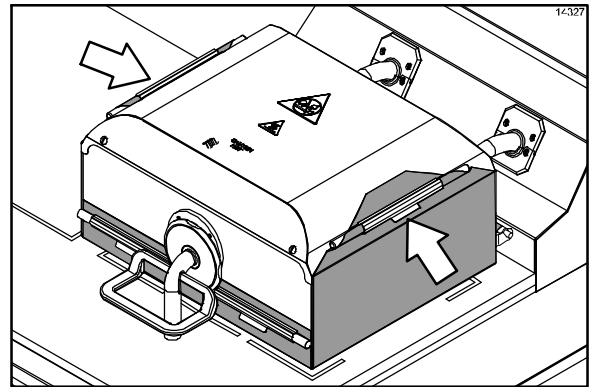

Figure 14
4. Carefully wrap the release sheet side flaps over the cover rails and secure the sheet with locking clips. (See Figure 14.)